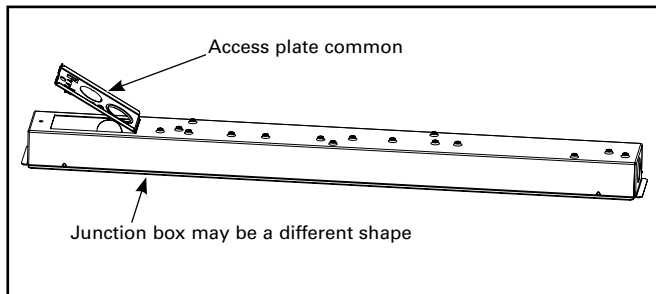

Figure 1.
1. Remove access plate to access wires. (Figure 1.)